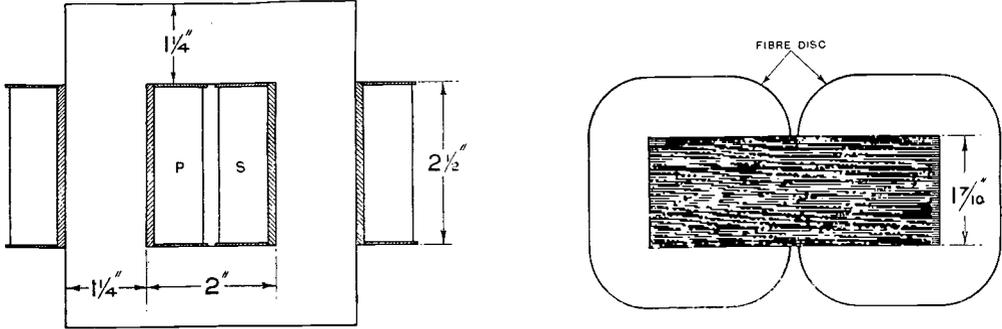

Fig. 3. Scale drawing of the transformer.
7. The area of the opening or window of the transformer being 5.0 square inches, we can arrange for the long side to be $2\frac{1}{2}$ inches and the short side 2 inches (Fig. 3). A
the core, (Fig. 3), and the secondary winding on the other limb. Constructional details may be gathered from the drawing of the former.